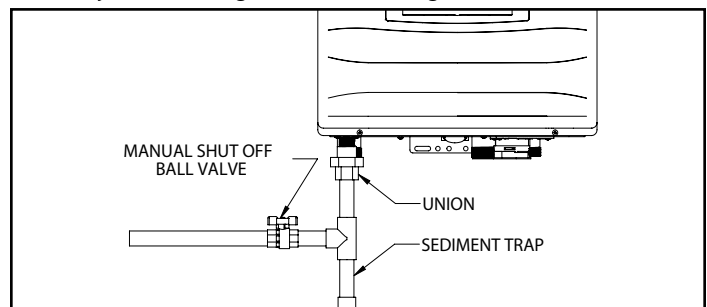

Figure 43 - Gas Line with Shut-Off and Sediment Trap Detail
- The National Fuel Gas Code (NFPA 54) requires that a sediment trap (drip leg) be installed in the gas line on appliances not so equipped. The drip leg must be accessible, a minimum of 3" in length, and not subject to freezing conditions. See Figure 43.
- A manual gas shut-off valve should be installed in the gas supply line close to the water heater. See Figure 43 for detail.